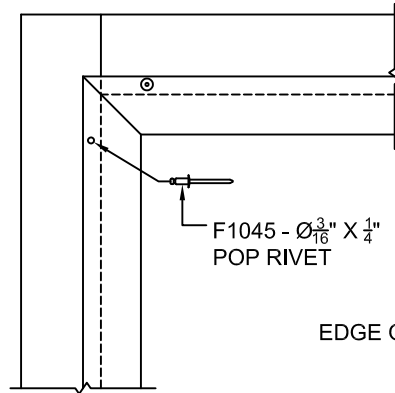
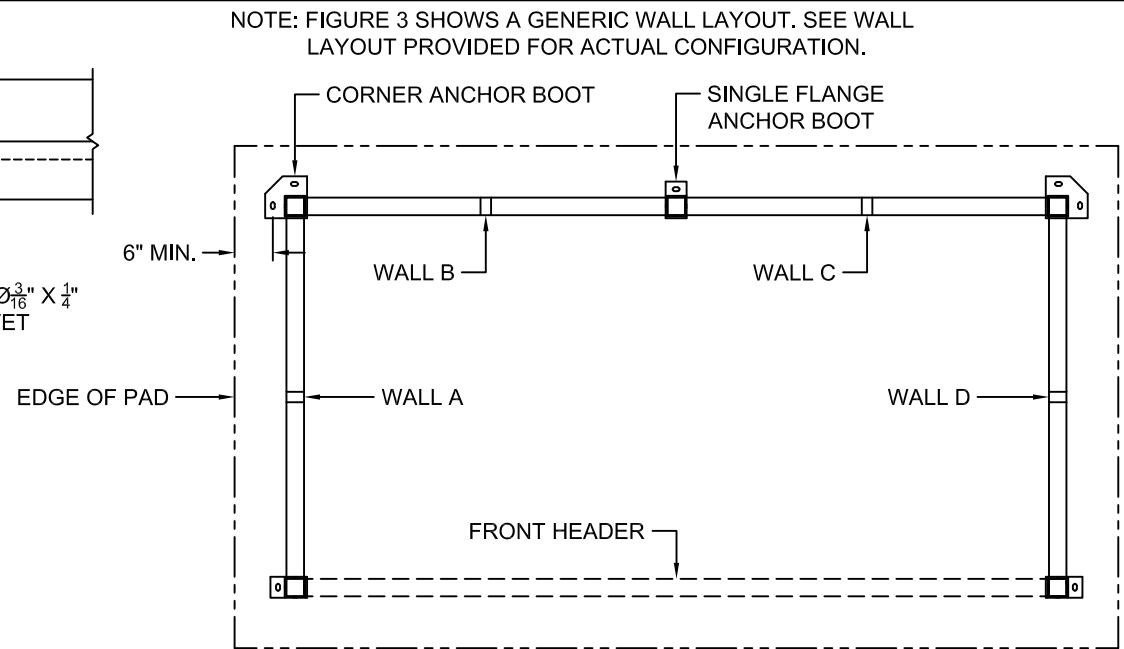

FIGURE 2
FIGURE 3
- 1) START WITH THE LEFT SIDE WALL AND LEFT BACK WALL. SET COLUMNS IN ANCHOR BOOTS. (ANCHOR BOOTS CAN BE ALIGNED UNDER SILLS OR TO OUTSIDE OF SHELTER AS SHOWN IN FIGURE 3) SLIDE HEADER AND SILL TUBES ONTO CORRESPONDING TUBE CLIPS UNTIL FULLY ENGAGED. USING THE DRIVE RIVET TOOL, ATTACH TO CLIPS WITH F1048 - $\varnothing\frac{1}{4}$ " X $\frac{3}{8}$ " FLAT HEAD DRIVE RIVETS.
- 2) REPEAT STEP 1 FOR REMAINING WALL SECTIONS, FRONT HEADER AND CROSS BRACE(S) CONNECTIONS.
- 3) WHERE WALL SECTIONS WERE CONNECTED, USE #11 ($\varnothing.191$ ") DRILL BIT TO TRANSFER HOLES IN GLAZING SASH TO COLUMNS. SECURE SASH TO COLUMN WITH F1045 - $\varnothing\frac{3}{16}$ " X $\frac{1}{4}$ " POP RIVET (FIGURE 2).